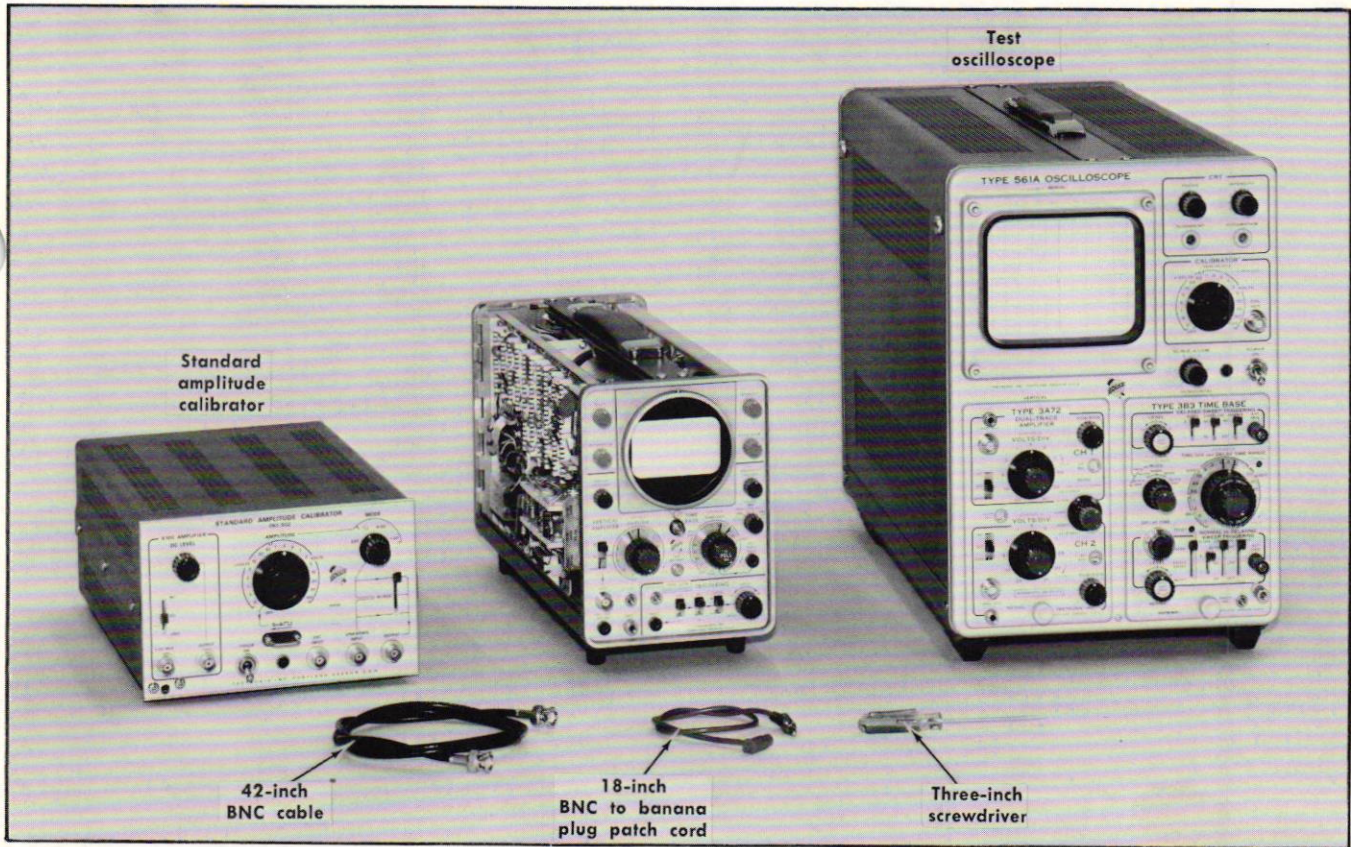

Fig. 5-8. Equipment required for steps 12 through 21.
a. Equipment required for steps 12 through 17 is shown in Fig. 5-8.